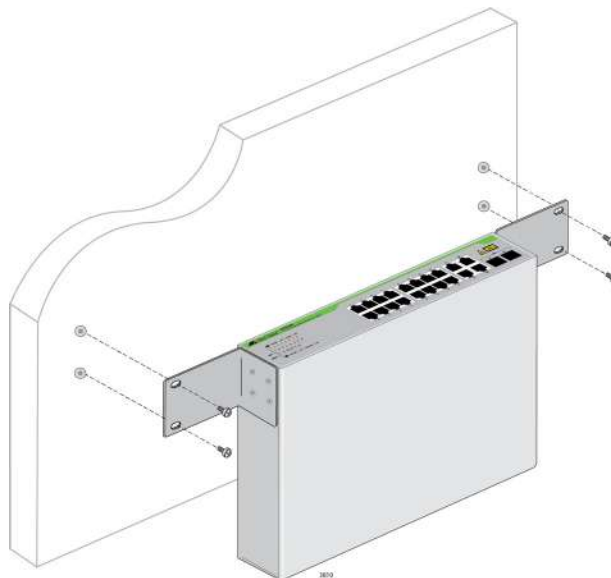

Figure 28. Driving the Screws through the Holes
9. Position the switch on the wall and drive screws through the holes to attach the brackets on the wall. See Figure 28.